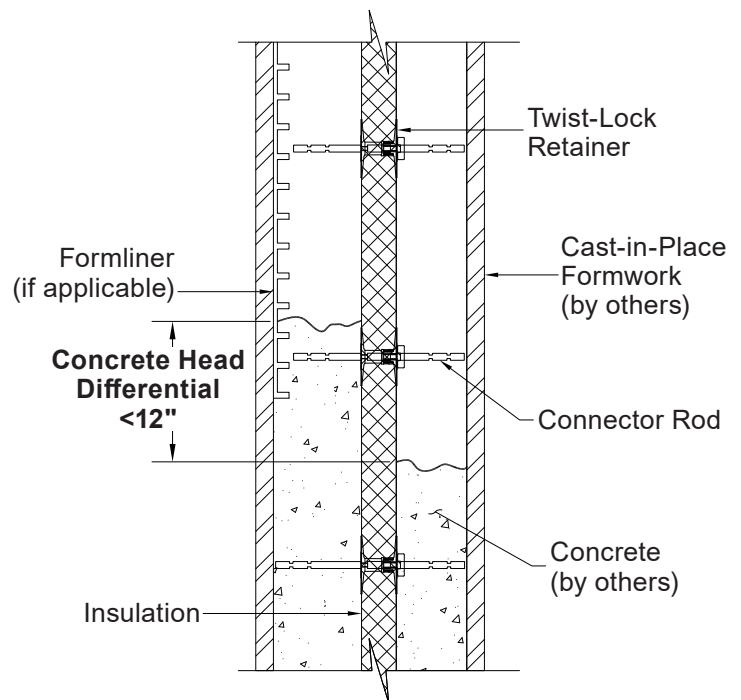

Figure 3 – Cast-in-place twist-lock connector as placed within wall assembly.
4. **PLACE THE CONCRETE** Use accepted practice for concrete mix design and placement procedures for thin wall sections. If multiple walls intersect, start the concrete placement at the insulated walls. **Ensure that the concrete is placed on both sides of the insulation with a maximum head differential of 12" (Figure 3).** Vibrate concrete properly to ensure full consolidation around connectors and reinforcement and to assist with flow of concrete to required location.